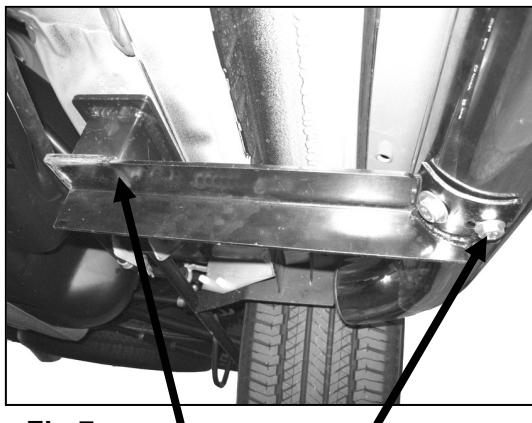

Fig 7
9. Partially hang driver rear Mounting Bracket to already inserted Bolt Plate. Use the included (1) 12mm Oversize Hex Nut (**Figure 7**).
10. Position driver's Sidebar onto Mounting Brackets. Use the included (4) 8mm x 25mm Hex Head Bolts, (4) 8mm Lock Washers, and (4) 8mm Flat Washers to attach Sidebar to Mounting Brackets (**Figure 7**).